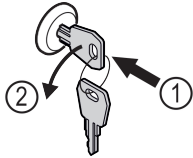

Fig. 139
- ▶ Insert the key. Fig. 139 (1)
- ▶ Turn the key anticlockwise by 90°. Fig. 139 (2)